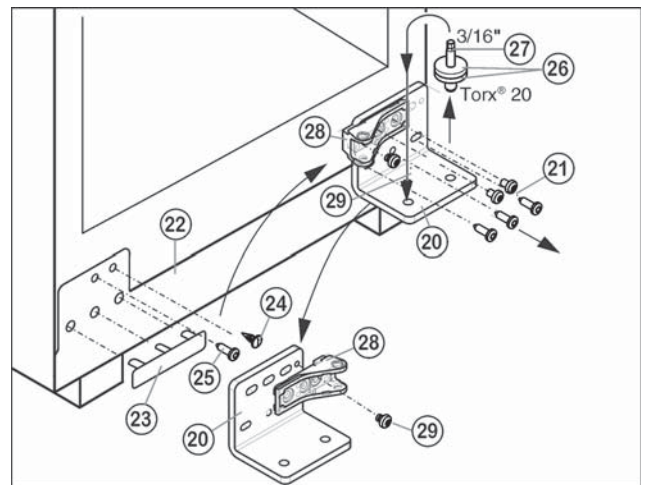

Fig. 21
▶ Unscrew bearing bracket *Fig. 21 (20)* together with bearing pin *Fig. 21 (27)* (3 x Torx 25) *Fig. 21 (21)*. When doing so, hold panel *Fig. 21 (22)* steady so that it does not drop.
▶ Carefully lift off the cover on the handle side *Fig. 21 (23)* and the plug *Fig. 21 (24)* and move them to the opposite side.
▶ Unscrew screw *Fig. 21 (25)* and move it to the opposite side. When doing so, hold panel steady so that it does not drop.
- ▶ Unscrew bearing part Fig. 21 (28), turn it 180° and tighten Fig. 21 (29).
- ▶ Remove the bearing pin Fig. 21 (27), move it to the other side along with the bearing disc and bearing ring Fig. 21 (26) and secure **tightly to 3 lb-ft (4 Nm)**.
- ▶ Using a cordless screwdriver if necessary, tightly secure Fig. 21 (21) the bearing bracket Fig. 21 (20) on the new hinge side again **by applying a screw torque of 3 lb-ft (4 Nm)**. First fit the lower center screw, then the other screws.
- ▶ Ensure that the bearing discs Fig. 21 (26) are on the lower bearing pin Fig. 21 (27).
- ▶ Position the door from above onto the bearing pins below Fig. 21 (27).
- ▶ Unscrew center screw on lower part of bearing bracket Fig. 21 (20).
- ▶ Align the doors flush with the appliance housing using the two oblong holes in the lower bearing bracket Fig. 21 (20) as a guide if needed.